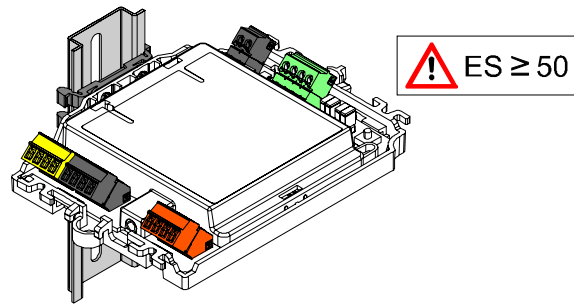

Fig. 1
- In a fire control panel using the mounting feet supplied on a U-rail TS35 (Fig. 1)
2. Push the input/output module with the mounting feet against the DIN rail until the mounting feet engage (Fig. 1).